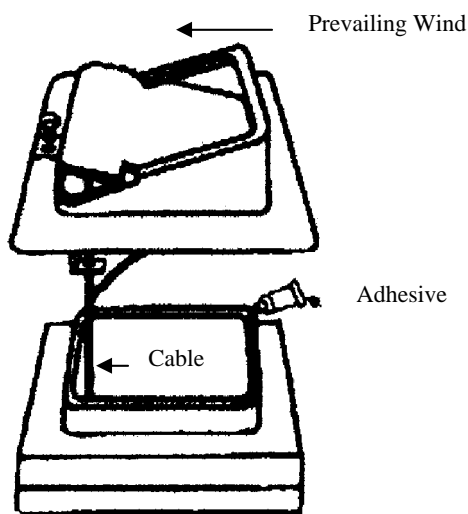

Figure 5. Install Damper
A. If installing the Lyemance damper at the top of the chimney, following instructions contained with the damper. Figure 5 shows the proper orientation of the damper in the chimney.